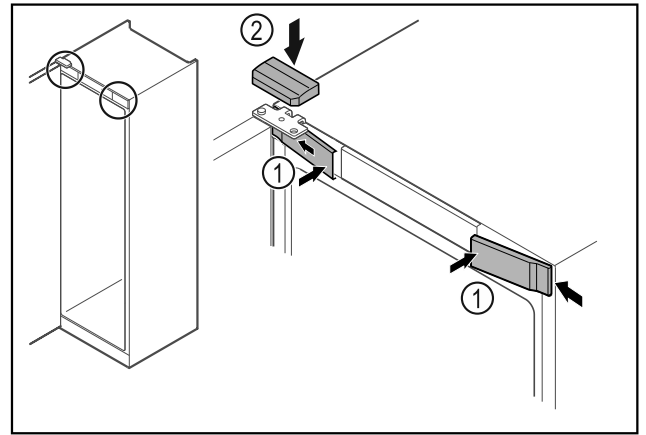

Fig. 62
- ▶ Hook in the front covers Fig. 62 (1) on the side and snap them into place.
- ▶ Snap on the top cover Fig. 62 (2) from above.